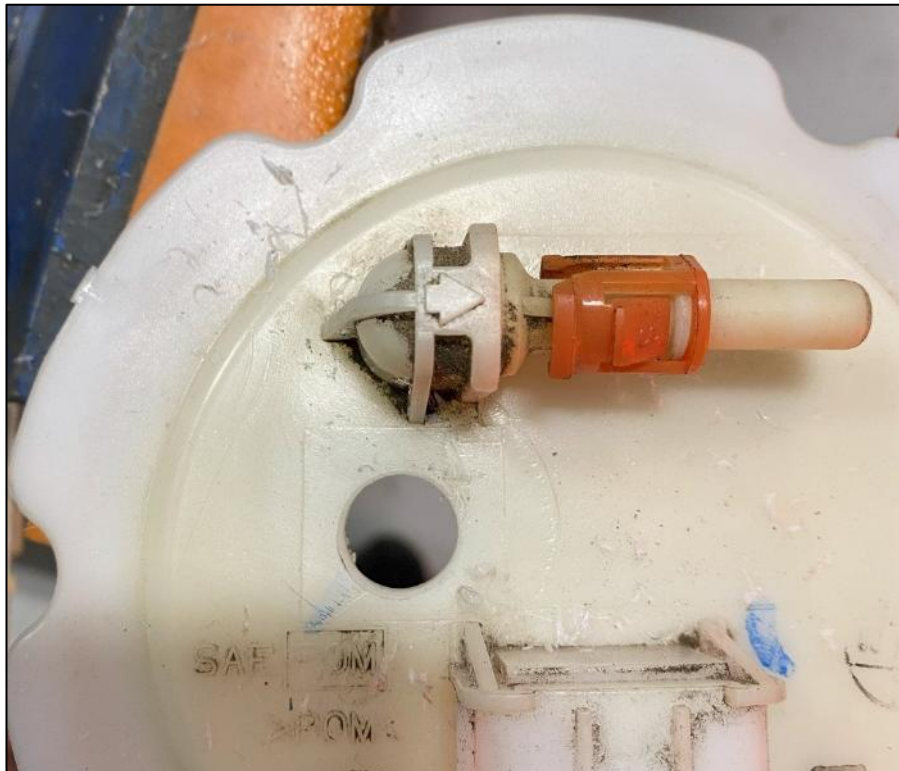

Figure 25
18. Carefully drill through the Basket Assembly until the hole is big enough for the Feed Line Port to fit. *Figure 25.*